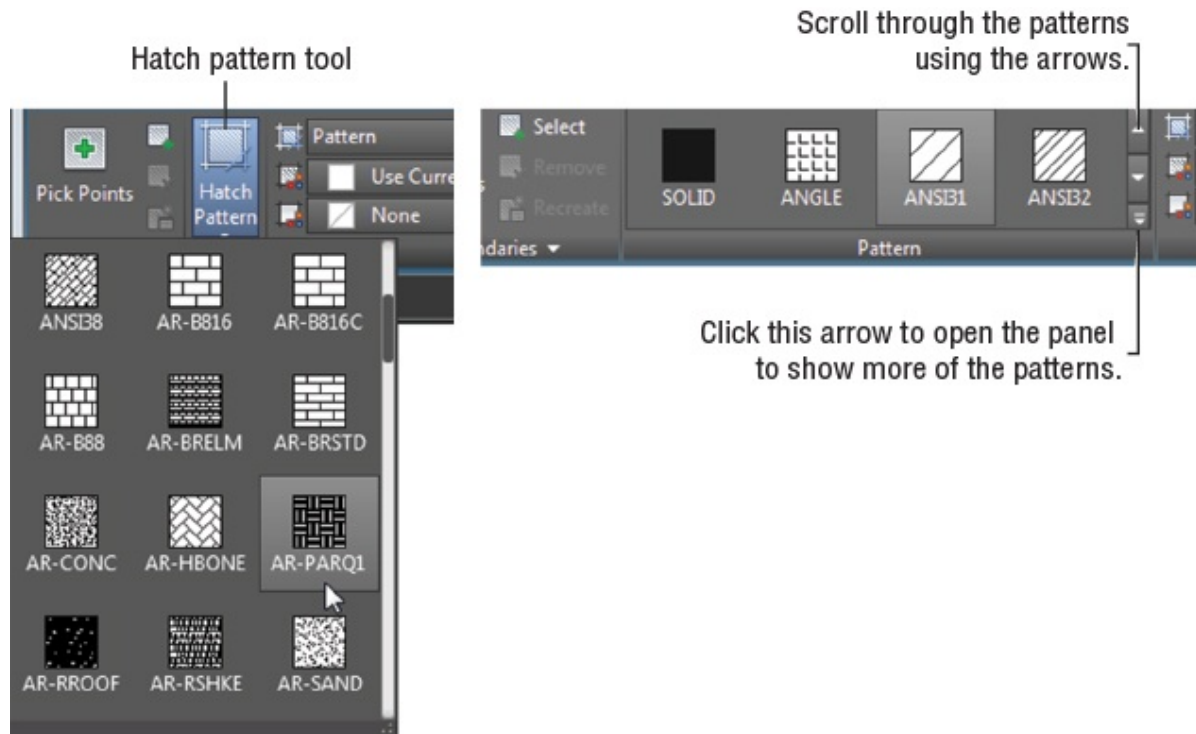

FIGURE 7.10 The Hatch Pattern flyout (left) and the Hatch Pattern panel in a full-screen AutoCAD window (right)
4. Click the Hatch Pattern tool in the Pattern panel. (If you don't see the Hatch Pattern tool, skip to step 6.) A flyout appears that displays a selection of hatch patterns (see Figure 7.10). This list has a scroll bar to the right that lets you view additional patterns.
5. Scroll down the flyout, and locate and select AR-PARQ1 (see Figure 7.10).
6. If you didn't see the Hatch Pattern tool in step 4, scroll through the patterns in the Pattern panel using the down arrow to the right of the panel to locate and select the AR-PARQ1 pattern. You can also expand the list by clicking the arrowhead below the scroll arrows (see Figure 7.10).